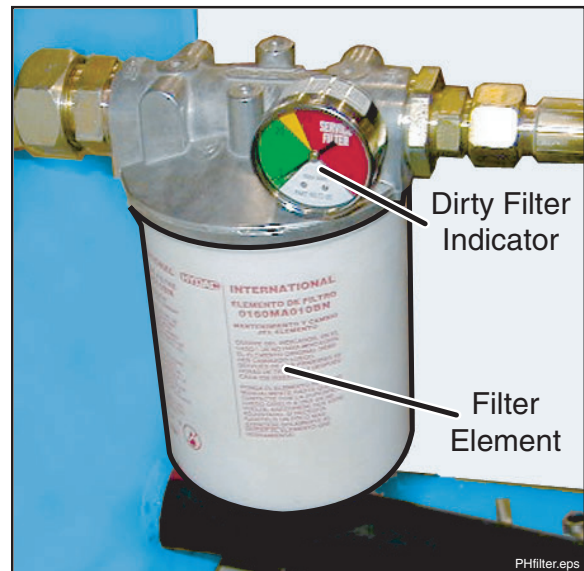

Figure 28
- The model SP 305 is equipped with a recirculation type of filtration system, meaning that there is a pump that sucks oil from the reservoir, pumps it through the filter and cooler, and back to the tank. Whenever the engine is running, oil is being filtered. The filtration is done with a spin-on filter assembly (Figure 28). It is equipped with an integral bypass check valve set at 30 PSI. The bypass valve protects the filter element from damage, as explained below. The assembly is equipped with an anti-back-flow check valve, which prevents oil from draining out of the tank while you are changing the spin-on element. There is a dirty filter indicator to tell you when the element is dirty. You should replace the element whenever the indicator enters the yellow area and the oil is heated above 20 degrees Celsius. Under normal circumstances, the element will need replacement about every 6 months. The element has been designed to remove all particles large enough to cause undue wear and jobsite breakdowns (beta 10 = 200). You can keep the hydraulic system running year after year by replacing the element when replacement is due. Do not substitute “will fit” elements in this housing.